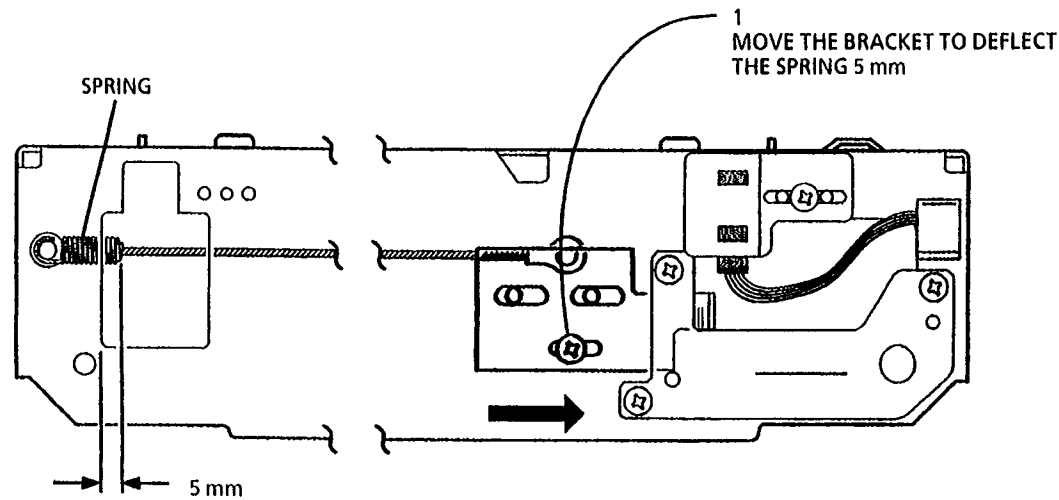

Figure 3. Adjusting the Optics Cable Tension
2. (Figure 3): Adjust the Optics Cable tension.